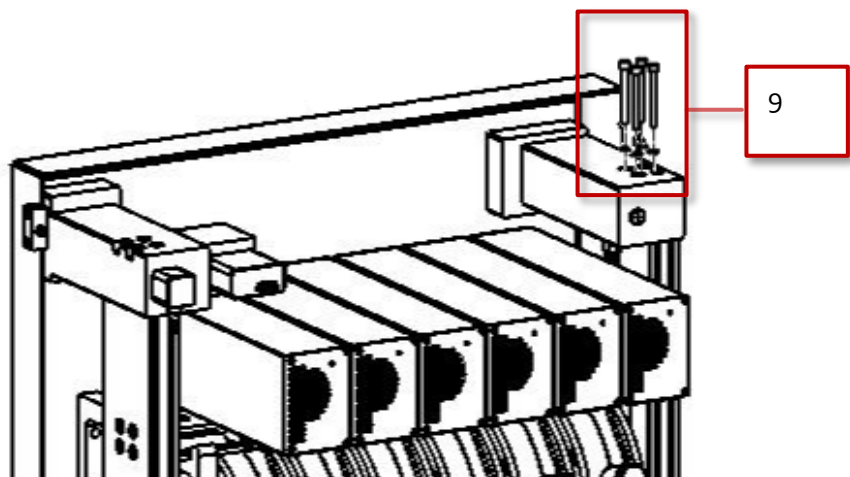

Figure 82 Remove screws to loosen the vertical connection bar
9. Remove the four screws on the front top water connection out, see Figure 82.